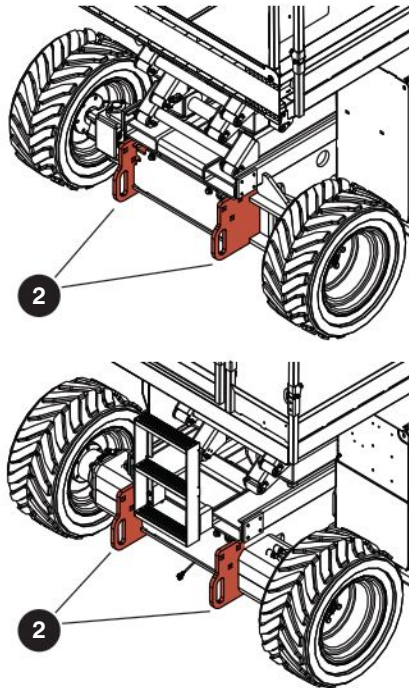

Figure 05 Tie-downs/lift points
- Attach the rigging to all **four lift points 1**. Refer to Figure 05.
When you transport the MEWP, it must be attached to a truck or trailer deck. Use the available tie-down points ② to attach the MEWP. Refer to Figure 05. If you do not obey, there is a risk of death or serious injury.
- Tie-down the MEWP to the transport vehicle using the **tie-down points** ②. Refer to Figure 05.